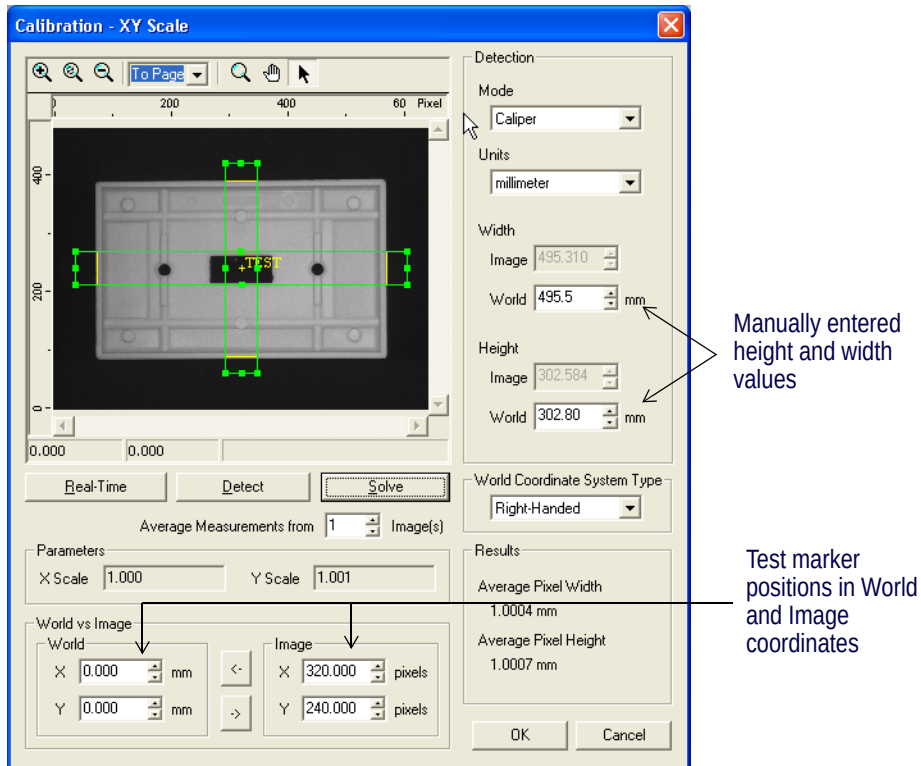

Figure 222 XY Scale Calibration Dialog
2. Click **Show Calibration Dialog** to open **XY Scale Calibration** dialog. See Figure 222.